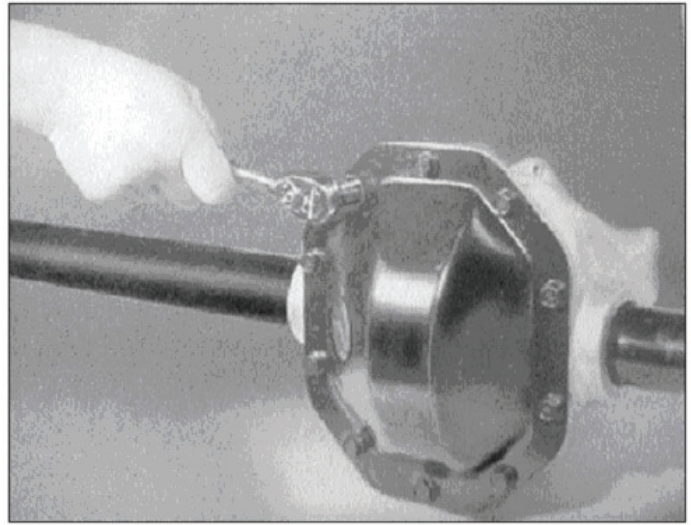

Figure 7-32. Carrier Cover
1. Remove ten cover plate bolts (Figure 7-32).